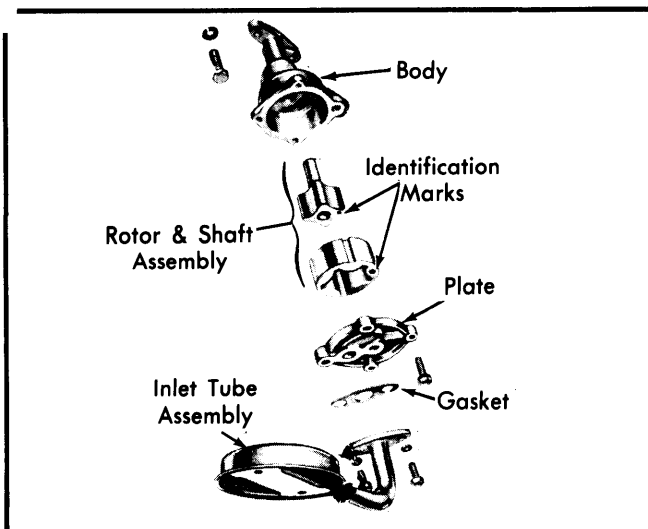

Fig. 11 Exploded View of Oil Pump Assembly
**Removal & Disassembly** – Remove oil pan. Remove oil pump attaching bolts and pump from engine. Remove oil inlet tube, cover attaching screws and cover. Remove inner rotor and shaft assembly, and remove outer race. Drill a small hole and insert self-threading sheet metal screw into oil pressure relief valve chamber cap and pull cap from chamber. Remove spring and plunger. See Fig. 11.